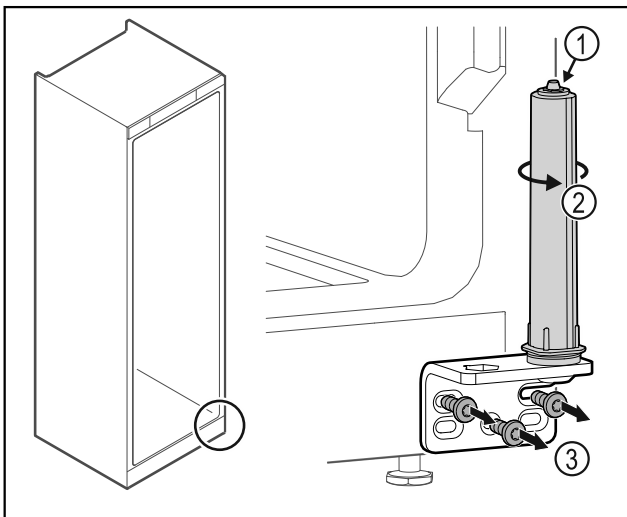

Fig. 34
- Do not disassemble the door closing system Fig. 34 (1).
- Turn the closing system Fig. 34 (2) until it clicks.
- Unscrew the hinge Fig. 34 (3).